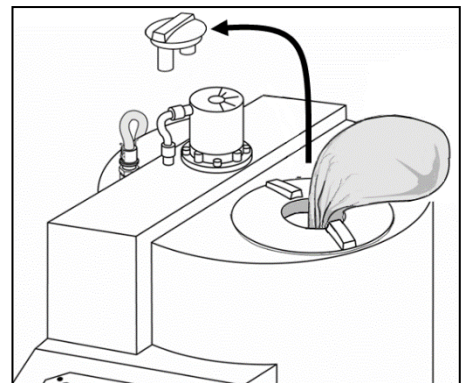

Figure 7
- Remove the Dry Acid Dissolution Unit Small Access Lid and slowly add granules as seen in Figure 7. This minimizes the amount of particulates discharged into air while adding granules to the tank. If clumping in dry acid product is present, then the larger access lid can be used to load the Tank, but ensure that the bags are slowly poured into the large access port to avoid splashing of water onto the outside of the Dry Acid Dissolution Unit (See Appendix A for further complete dry acid mixing information, page 45).